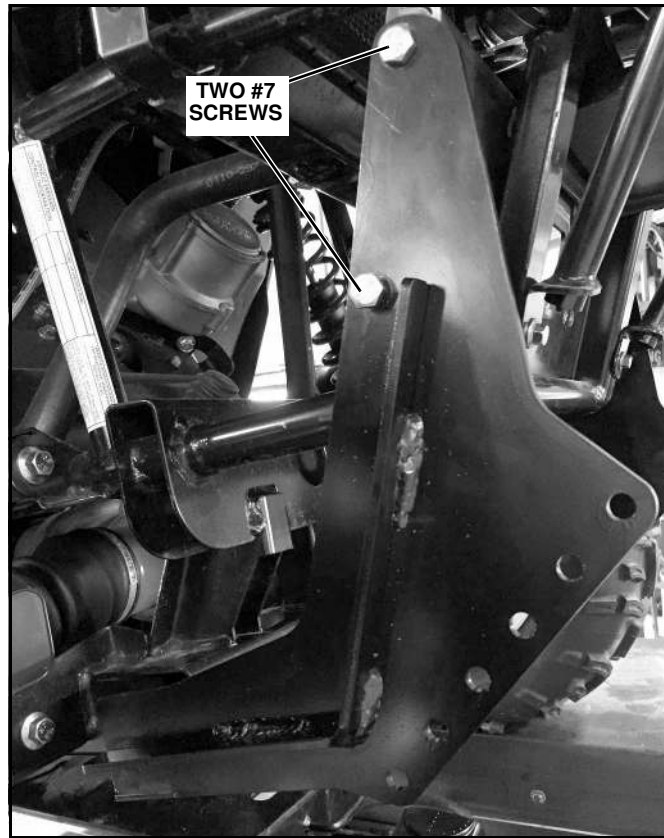

Figure 9
11. Insert (4) 3/8" x 1-1/4" Hex Head Cap Screws (#7) thru the sides of the Mounting Bracket (#2) and into the Upper Bracket (#1) (2 on each side). (See Figure 9.) Secure with (4) 3/8" Lock Nuts (#8).